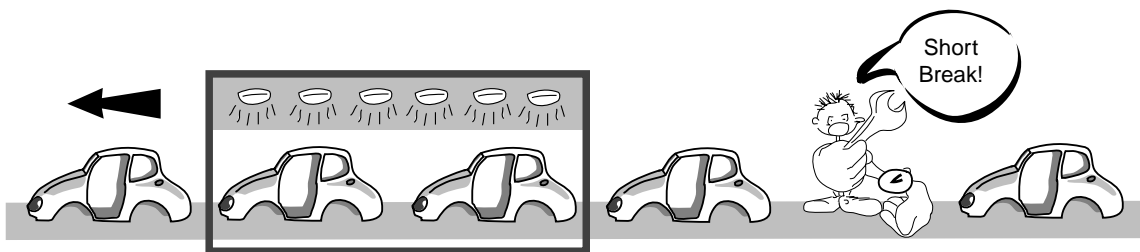

Figure 2-10: Peak Hold Example
In a car plant, body parts are moved on a conveyor belt through a hardening oven to harden the metallic paint. Normally a new body passes through every two minutes. The temperature of the oven must be kept relatively constant, if possible, even if no new parts move into the oven for short periods (for breaks or for short technical stoppages). So practically speaking, we have the following case (Figure 2-10):
In the example in Figure 2-10: No new car bodies enter.
In the example in Figure 2-10: the conveyor belt temperature is below the bottom of the temperature range. For example, 475°C for FA1A.
- Set HOLD TRIGGER TEMPERATURE high enough that all "irrelevant" input values are suppressed. In the example in Figure 2-10 the bodywork parts have a higher temperature than the moving conveyor belt. HOLD TRIGGER TEMPERATURE was set above the conveyor belt temperature (2-way command "C").